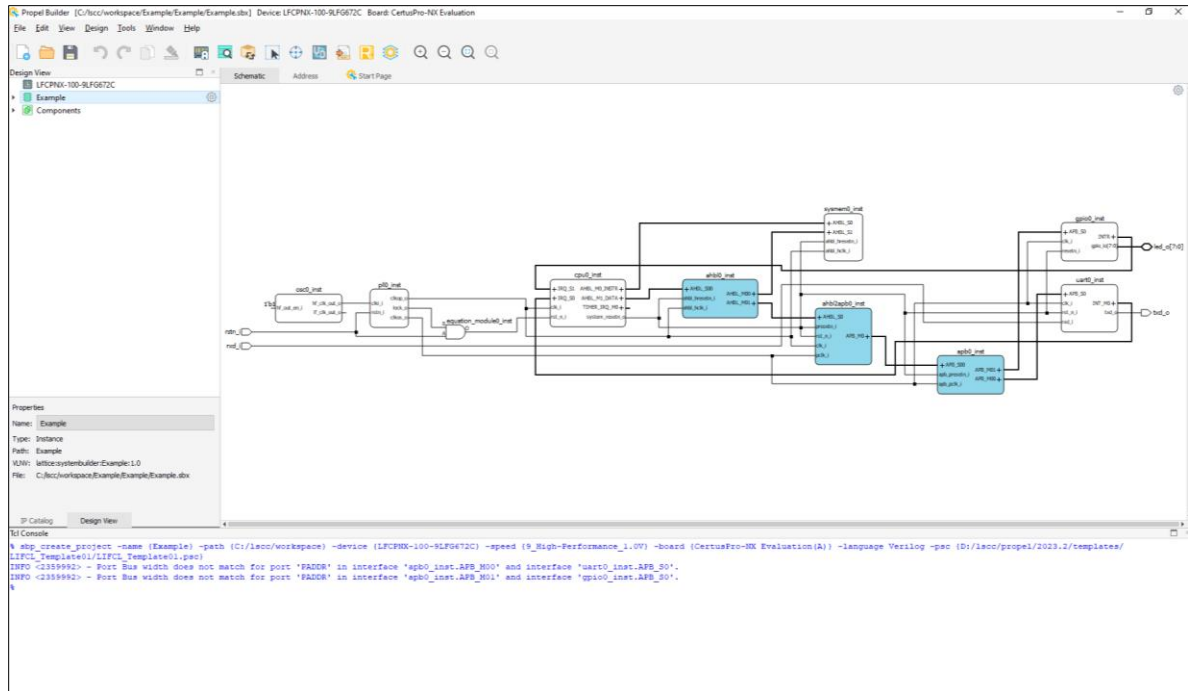

Figure 2.11. Propel Builder GUI showing Template SoC Project
- Click **Finish**. The Propel Builder GUI opens (Figure 2.11).